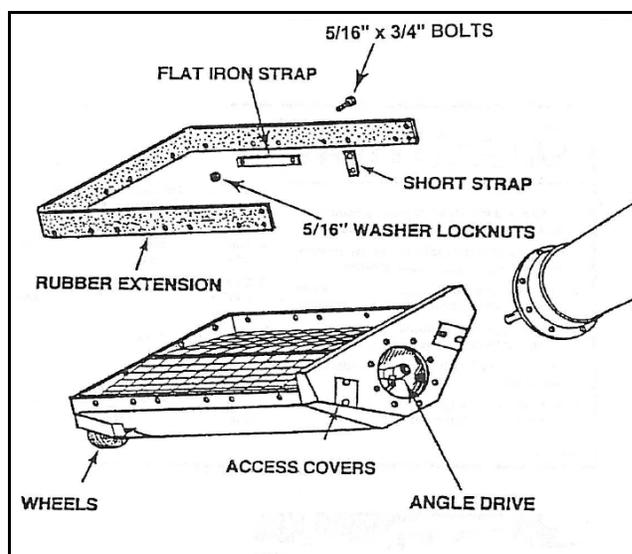

Figure 3.2
5. Install the 2 wheels to hopper with a washer and cotter pin. The washer should be between wheel and cotter pin (Figure 3.2).
- ➔ 6. **8" & 10" Only:** Install rubber extension on inside hopper lip with twenty $5/16"$ x $3/4"$ bolts and washer locknuts, and 8 long and 2 short flat iron straps (Figure 3.2).
- ➔ 7. **13" Only:** Install the 2-piece rubber extension on inside hopper lip with twenty-eight $5/16"$ x $3/4"$ bolts and washer locknuts, ten long and two short flat iron straps. (Figure 3.2)